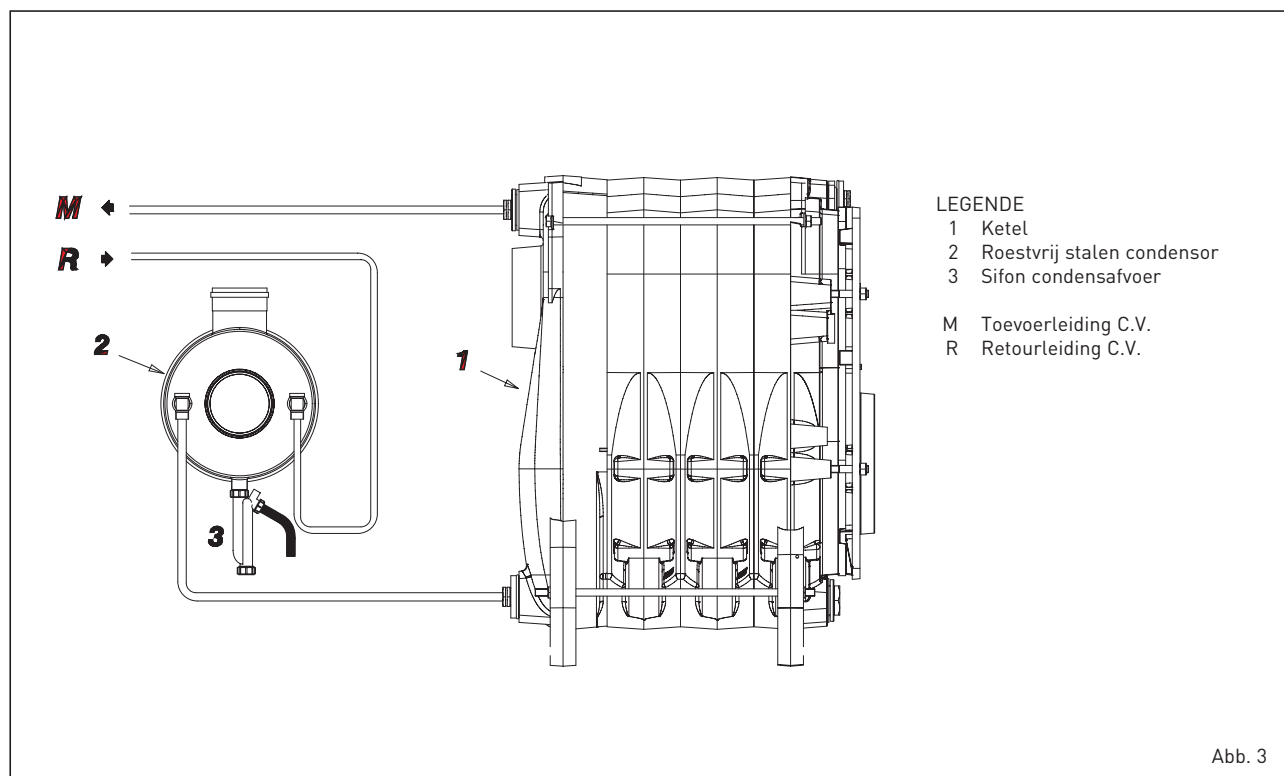

Abb. 3
1.4 HYDRAULISCH CIRCUIT (Abb. 3)